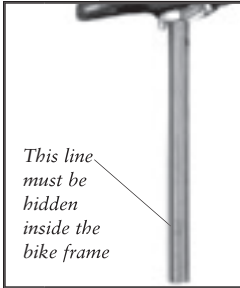

Figure 5- Minimum insertion mark on seatpost
3. Make sure the minimum insertion mark (Figure 5) on the seatpost is not visible above the bike frame. A minimum of 2 1/2 inches (64 mm) of seatpost must remain in the frame.
A seatpost that is positioned too high can damage the bike and can cause you to lose control and fall. Make sure the minimum insertion mark (Figure 5) is inside the frame.